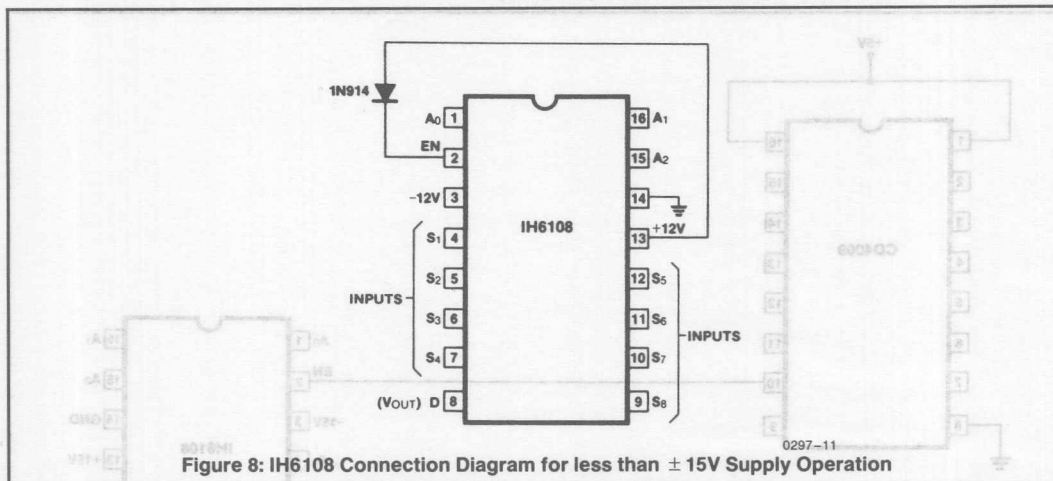

Figure 8: IH6108 Connection Diagram for less than $\pm 15V$ Supply Operation
Caution must be taken to ensure that the enable (EN) voltage is at least 0.7V below V^+ at all times. If this is not done, the Address input strobing levels will not function properly. This may be achieved quite simply by connecting EN (pin 2) to V^+ (pin 13) via a silicon diode as shown in Figure 8. When using this type of configuration, a further requirement must be met: the strobe levels of A0 and A1 must be within 2.5V of the EN voltage in order to define a binary "1" state. For the case shown in Figure 8 the EN voltage is 11.3V which means that logic high at A0 and A1 is $+8.8V$ (logic low continues to be $+0.8V$). In this configuration the IH6108 cannot be driven by TTL (+5V) or CMOS (+5V) logic. It can be driven by TTL open collector logic or CMOS logic with +12V supplies.